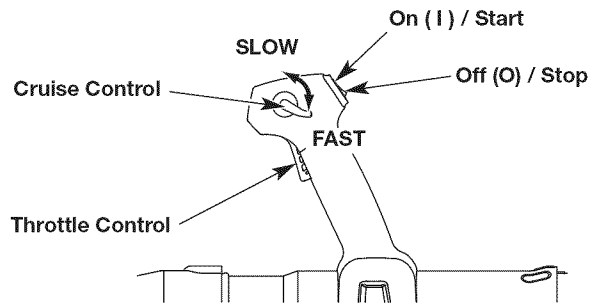

Fig. 7
NOTE: There is no need to turn the unit on. The On/Off switch is in the ON (I) position at all times (Fig. 7).
5. Move the cruise control to the FAST position (Fig. 7).
2. Press and hold the On/Off switch in the OFF (O) position until the engine comes to a complete stop (Fig. 7).
- Use the cruise control to make continuous operation easier (Fig. 7).